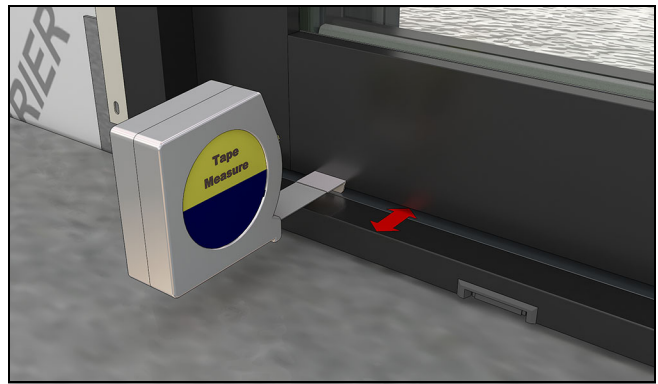
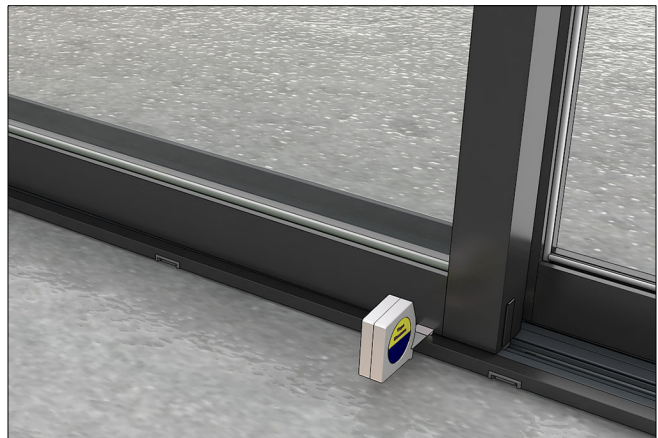

Figure 81
Figure 82
6. Measure from the edge of the stationary panel near the jamb. Move the meeting stile end of the stationary panel until the distance is the equal. See Figure 81 and Figure 82.